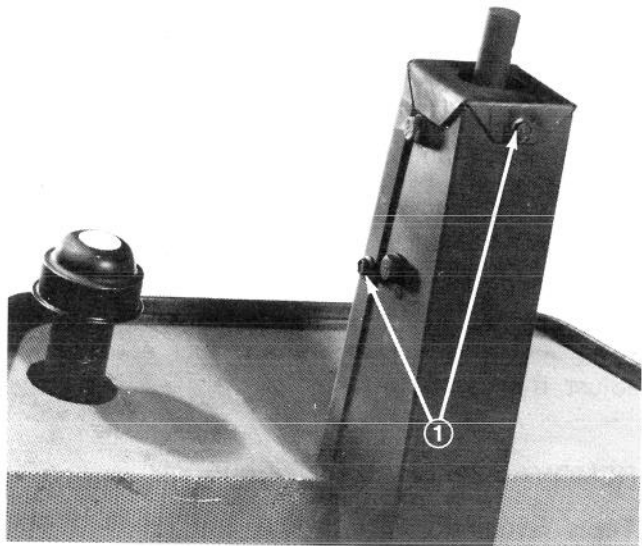

Figure 51
1. Remove steering wheel and steering Tower Cover (Fig. 51).